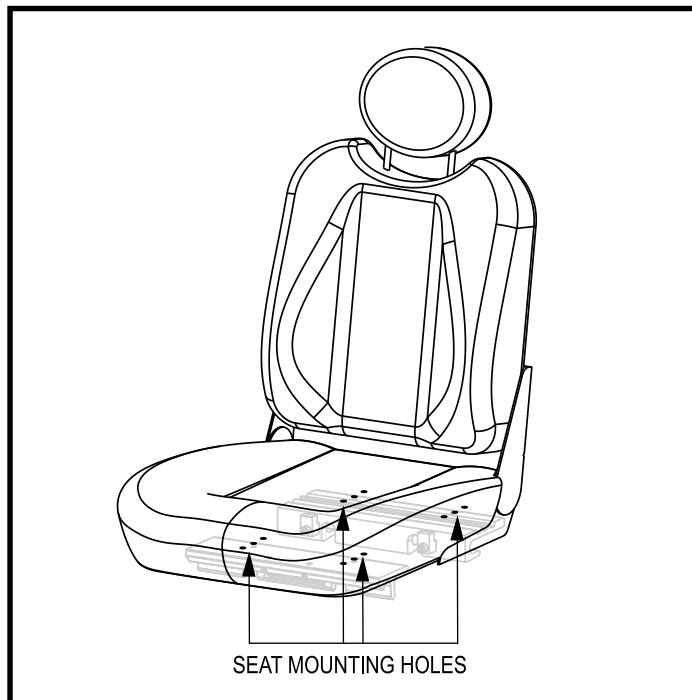

Figure 14. Seat Position Adjustment
5. Reposition the extrusions on a different set of mounting holes. You must move both extrusions the same number of holes either forward or rearwards. See figure 14.